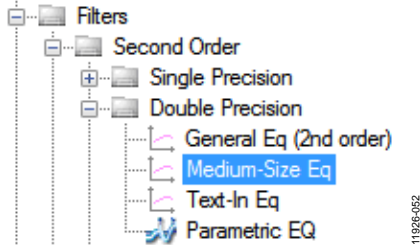

Figure 50. Medium-Size Eq Block Selection
- a. From the **Filters > Second Order > Double Precision** folder, click **Medium-Size Eq** (see Figure 50) and drag it into the project space to the right of the toolbox.